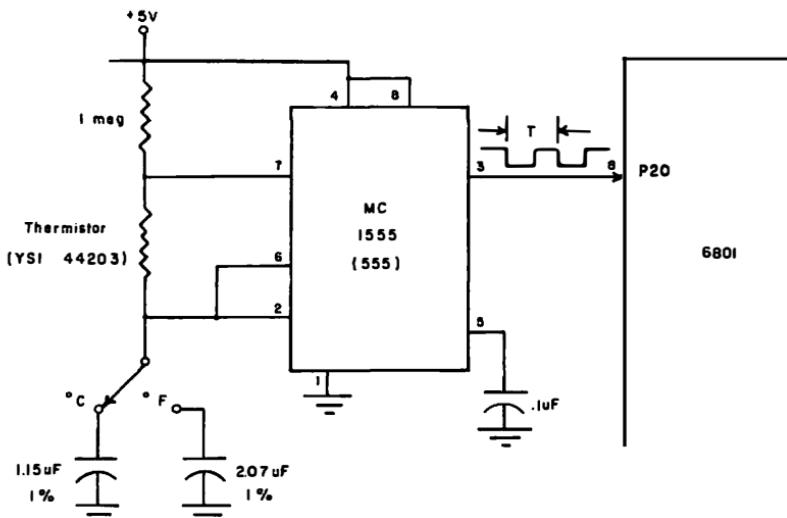

Fig. 9-4. Temperature-monitoring circuit.
In this section, you will see how the 6801 timer can be used to monitor temperature, using an MC1555 (555) timer to generate a pulse train that has a frequency that is proportional to temperature. The required circuit is shown in Fig. 9-4. Note that the MC1555 is being used to generate a train of pulses for the 6801. The MC1555 will provide a pulse width that is linearly related to the temperature sensed by the thermistor on its input. The pulse train will be fed into the 6801 at pin 8, P20. The 6801 timer will be used in the pulse measurement mode to obtain the temperature reading.
train period (T), as shown in Fig. 9-4. Therefore, each time a high-to-low (or low-to-high) transition is detected at P20, you will want the existing internal counter contents to be transferred to the timer input capture register (see Chapter 6). When this happens, the input capture flag will be set and will generate an interrupt to the 6801 CPU. The interrupt service routine will then read the existing count and use the difference between this and the previous count to calculate the temperature. The program in Example 6-3 may be used to accomplish this task. The *maximum* measureable time duration (T) will be 65.536 milliseconds using a 1-MHz clock. Ten microseconds is the *minimum* recommended time duration (T). The program could be modified to measure only the pulse's logic 0 or logic 1 period. To do this, you would clear the IEDG bit of the TCRS such that the 6801 would first recognize a high-to-low (falling pulse edge) transition at P20, then set the IEDG bit such that the 6801 would recognize a low-to-high (rising pulse edge) transition at P20. This would extend your temperature measurement range. In either of the above cases, the system must be calibrated to determine the correct temperature-vs-count relationship.
5. What determines the output duty cycle of the MC1555 in Fig. 9-4?